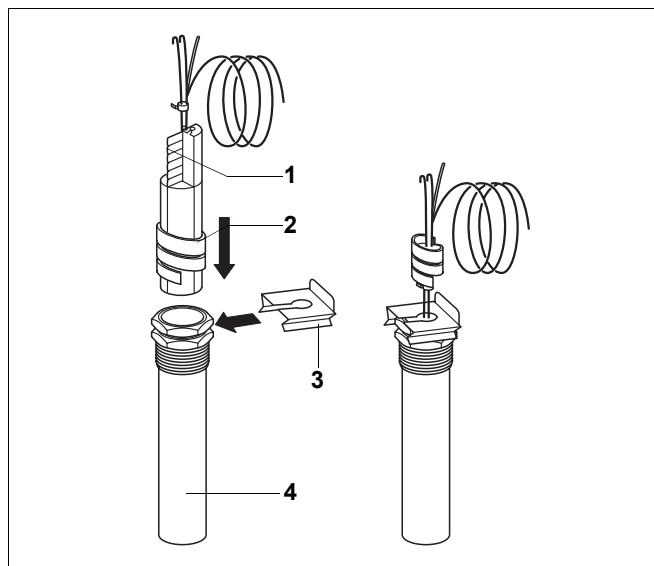

Fig. 16 Inserting plastic coil in immersion sleeve
- The plastic coil (Fig. 16, **Item 2**) for holding together the temperature sensor is pushed back automatically when it is inserted.
To ensure good contact between the well (Fig. 16, **Item 4**) and the sensor surfaces and thus establish reliable heat transfer, the wavy spring (Fig. 16, **Item 1**) must be placed between the temperature sensors.